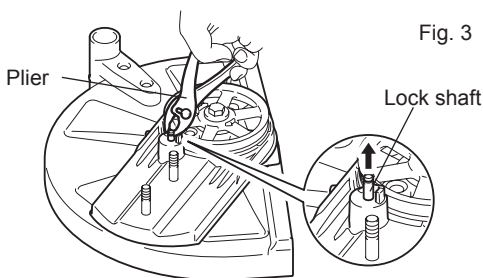

Fig. 3
- (4) Pick up the lock shaft with a slotted screwdriver or a plier. (Fig. 3)